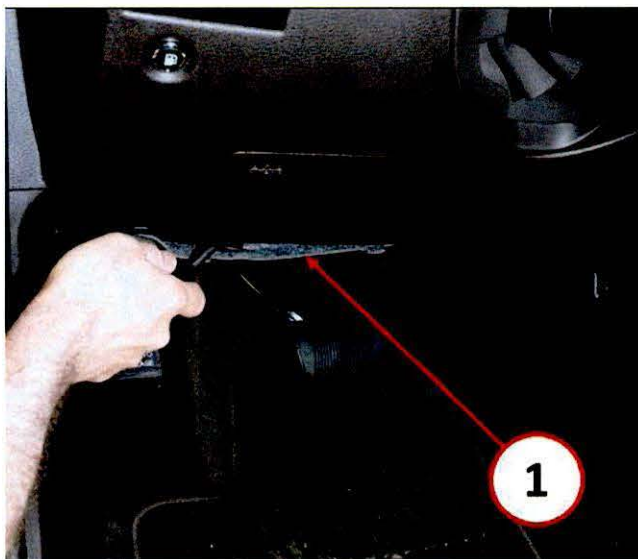

Fig. 2 Left Instrument Panel Closeout
2. Release the fasteners securing the driver side instrument panel closeout (1) to the instrument panel (Fig. 2).
8. Install the driver side instrument panel closeout (2) to the vehicle (Fig. 2).